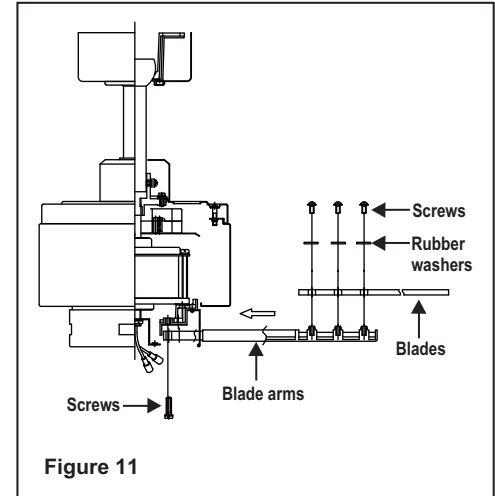

Figure 11
Step 1. Attach the blades to the blade arms using three screws and fiber washers as shown in Figure 11. Start a screw into the blade arm, do not tighten. Repeat for the 2 remaining screws and washers.